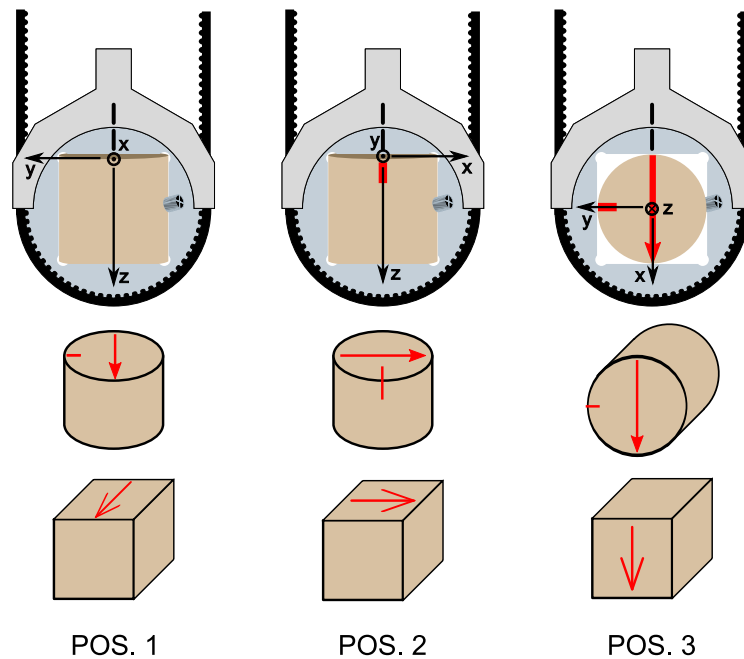

Figure 7: Inserting positions for Classical Rotator
Switch **ON** the Kappabridge, run the SAFYR software, push **ACTIVATE** button, choose AMS measuring mode and continue with the activation. Software detects the type of connected rotator automatically. Run `Execute|Calibration` and `Execute|Holder Correction` using rotator. Measurement of the AMS consists of three measurements of the differential susceptibility in there planes (Position 1 – y,z plane; Position 2 – x,z plane; Position 3 – x,y plane) and additional measurement of the Bulk susceptibility in the x-axis of the specimen coordinate system. Specimen must be inserted into the shell of the rotator in the particular position according to the Fig. 7. Additional bulk susceptibility measurement must be performed with the specimen mounted in the position 3.
- For calibration with the **classical rotator** insert the calibration standard in the position 1 as shown on Fig. 7.